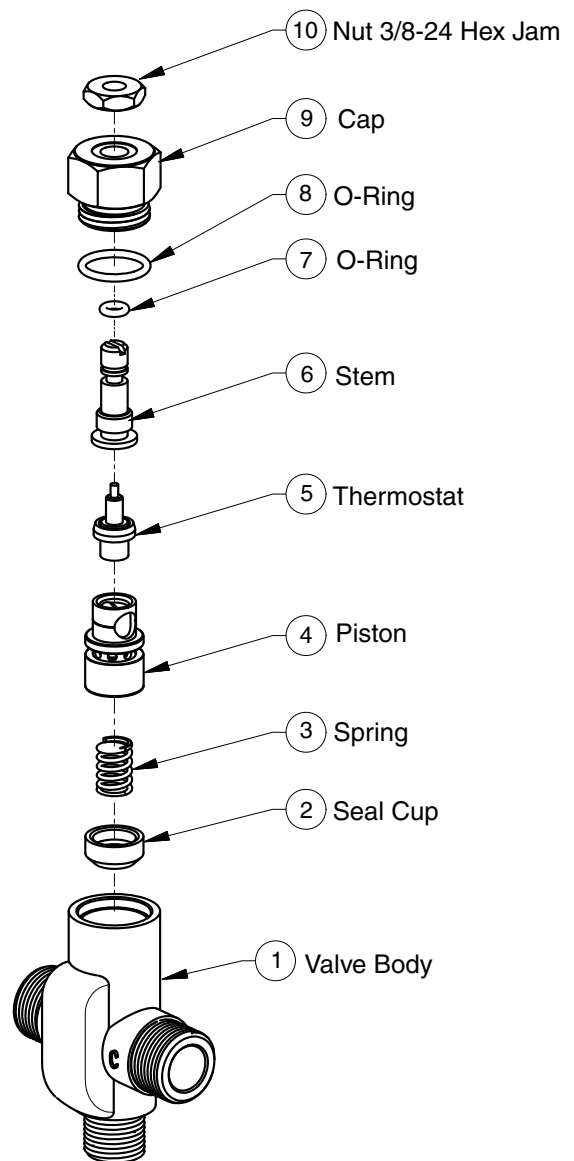

Figure 13
1. Remove the valve's cap and thermostat (see Figure 13 on Page 31).